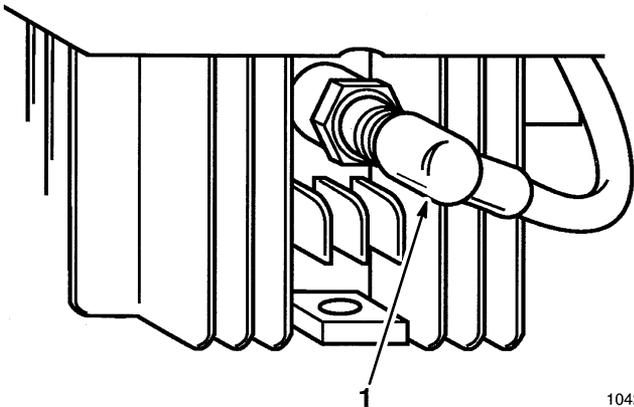

Figure 10
2. Connect spark plug wire (if disconnected) (Fig. 10).
1. Stop engine and pull wire off spark plug (Fig. 10).